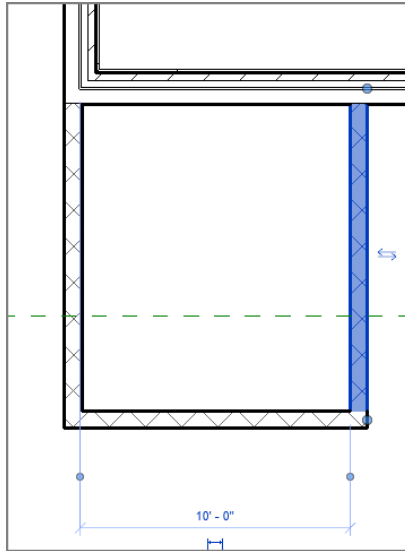

FIGURE 2.24 : The selected wall is the wall that will move when you type the new dimension.
4. The actual increment in the dimension is blue. Select the blue dimension, type 10' (3000mm), and press Enter. The wall that was selected moves to accommodate the new increment, as shown in Figure 2.24.